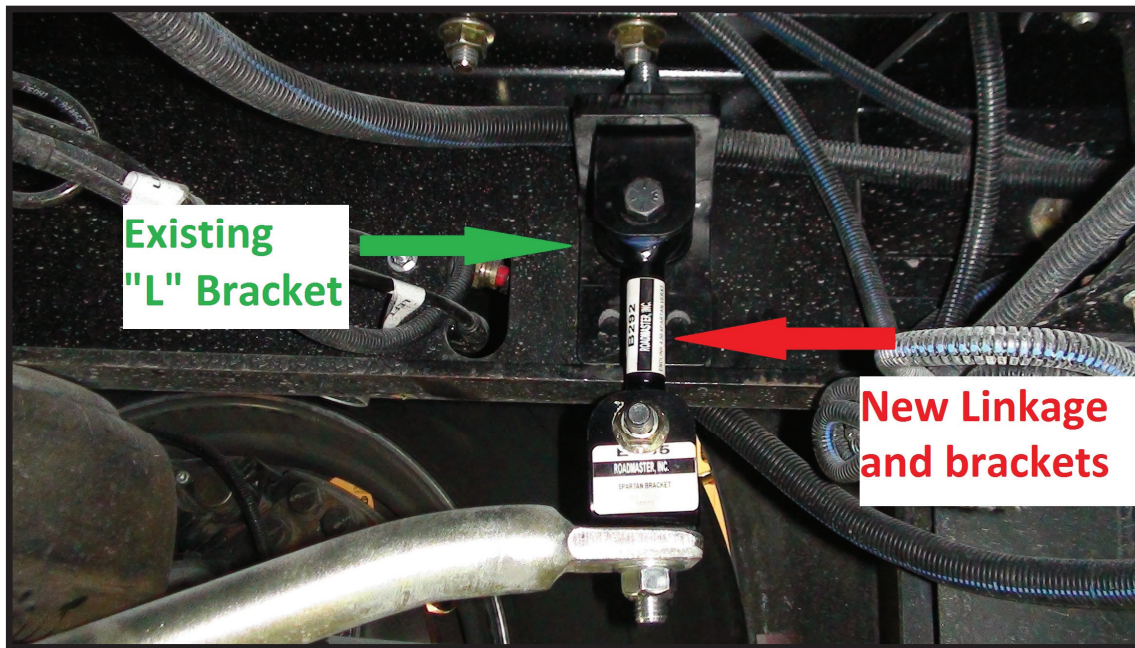
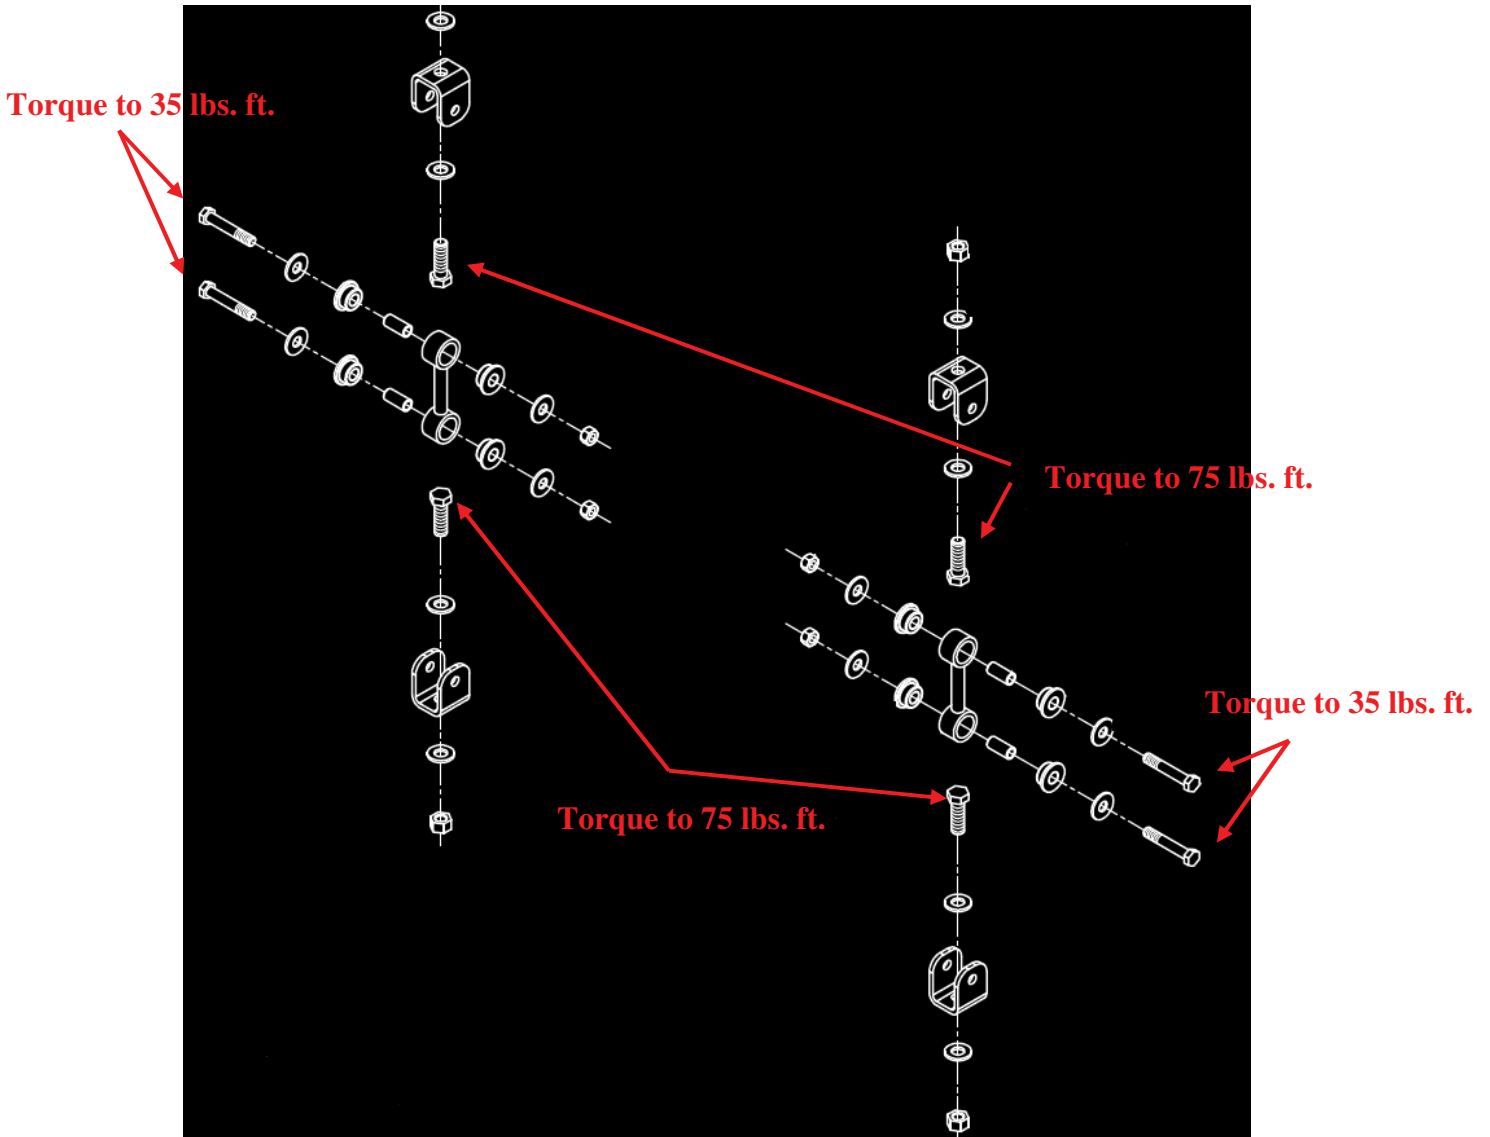

FIG. 3-1
FIG. 4-1
2. Take the frame mounted end link bracket and turn it 180 degrees using provided hardware. Refer to FIG. 3-1. When mounting the end link in 180 degree position use the middle set of holes and torque to 75 lbs. ft.
3. Install provided “C” bracket to end link frame bracket using provided 5/8” bolt and hardware on both sides. Torque to 75 lbs. ft. Refer to FIG. 4-1 for proper assembly.
4. Install provided “C” bracket to sway bar ends using provided 5/8” bolt and hardware on both sides. Torque to 75 lbs. ft. Refer to FIG. 4-1 for proper assembly.
5. Install new 4 ½” long end link to previously install “C” brackets using provided ½” bolts and hardware. Torque to 35 lbs. ft. Refer to FIG. 3-1 and FIG. 4-1 for final installation.